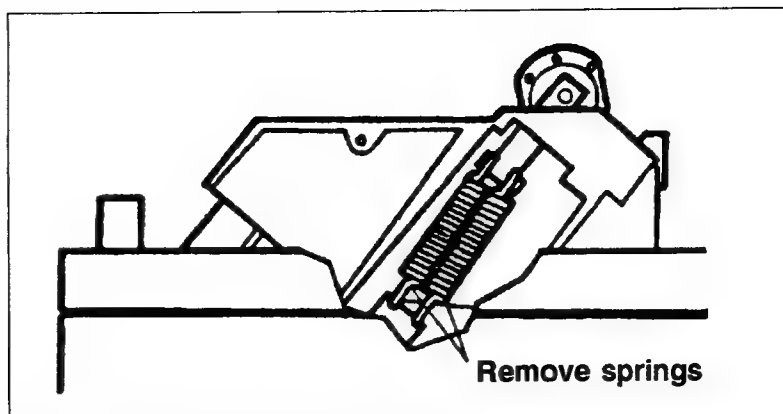

Figure 6-17. Platen Tension Springs
- c. With the platen lever forward (closed), use a needle-nose pliers to remove the two tension springs from the right side of the printer (see Figure 6-17).